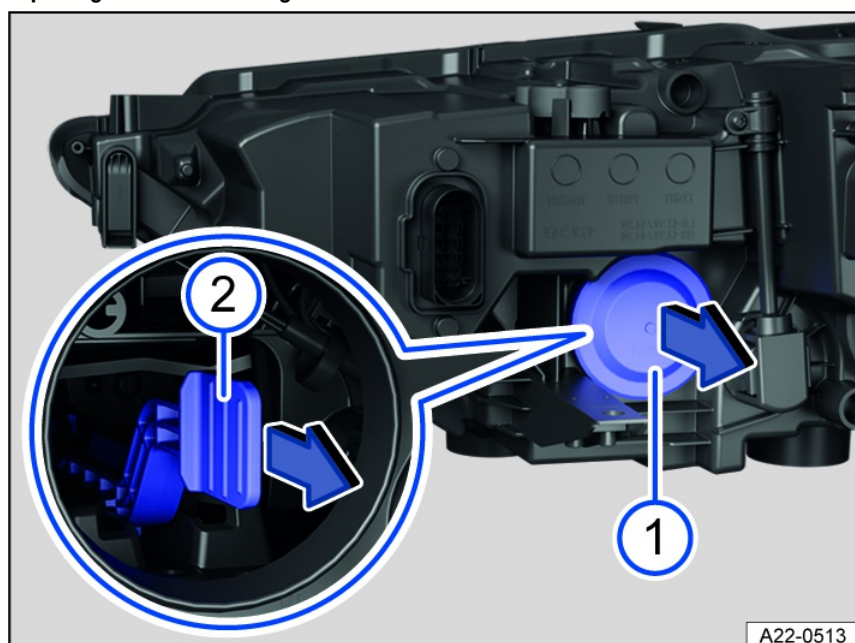

Fig. 139 In the right-side of the engine compartment: Rear side of the headlights.
- ① Turn signal bulb holder cover.
② Turn signal bulb holder.
1. Remove the rubber cover *fig. 139* ①.
2. Pull out the lamp holder by the handle in the direction of the arrow *fig. 139* ②. At the same time, press the handle slightly up and down alternately, in order to aid removal.
4. Carefully insert the lamp holder in the headlight and press it forwards until it perceptibly engages *fig. 139* ②.